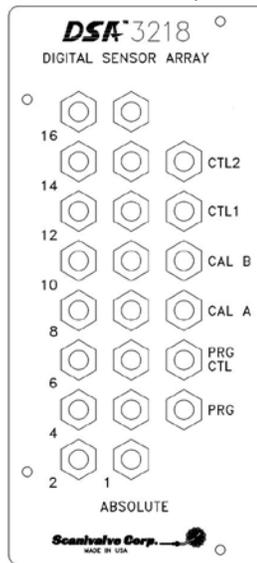

FIGURE 2.11 - DSA3218-PTP/16Px ABSOLUTE TOP PANEL
The DSA3218-PTP/16Px module can be used for absolute pressure measurement when equipped with absolute pressure transducers. A calibration valve is provided for each group of eight (8) sensors. All sixteen (16) transducers are tied a single calibration port, except in the cases of dual-range absolute modules. Figure 2.11 depicts the top panel of a DSA3218-PTP/16Px absolute pressure module.